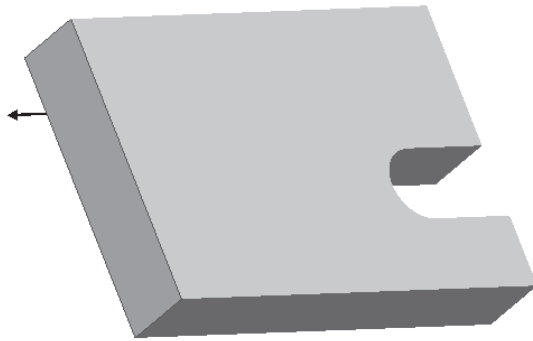

Figure 5-76 Arrow showing the direction of viewing the model
- c. Create the second feature on the left face of the base feature, refer to Figures 5-76 through 5-80.
3. Use the middle mouse button to spin the model, as shown in Figure 5-76.
5. Choose the **Flip** button to flip the yellow arrow and to change the direction of viewing the sketching plane, refer to Figure 5-76.